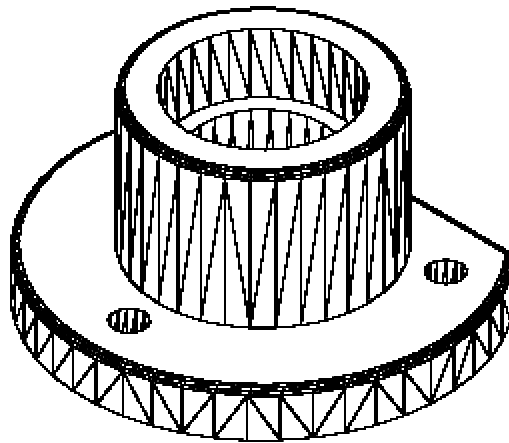

Figure 24-96 Model after creating the fillet
8. Create the central hole to be subtracted from the cylinder with the diameter 4 units and the height 6 units. Fillet the edges. The model should now look similar to the one shown in Figure 24-96.